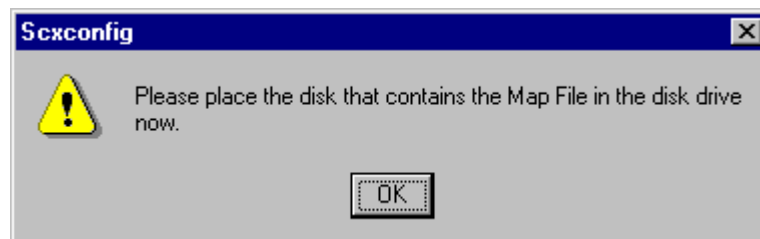

Figure 44. Insert Map File Disk Window
7. In *Figure 44*. *Insert Map File Disk Window*, the DCM prompts you to insert the disk containing the Map File. Insert the disk containing the *scxmap.dat* file and click **OK** to proceed to the next screen.